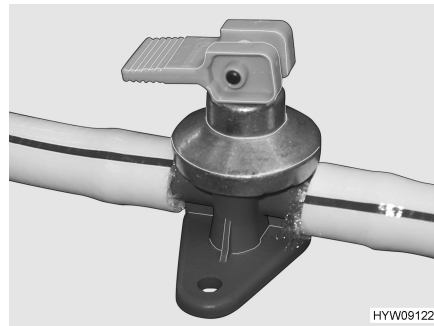
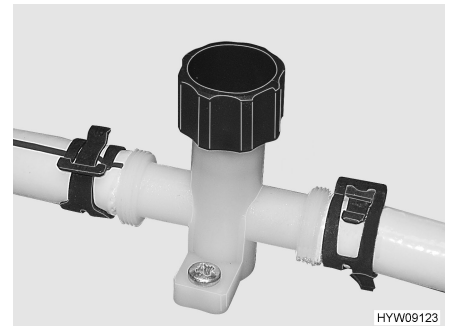

Fig. 69 Drain cock with rocking lever
Fig. 70 Drain cock with knob
- Close all drain cocks (Fig. 69 or Fig. 70).